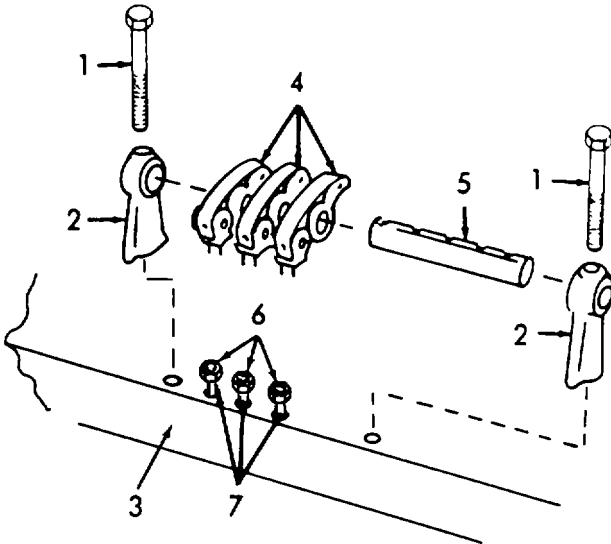

Figure 3-75. Rocker Arms, Removal/Installation.
a. Removal. (Refer to figure 3-75).
- (1) Crank engine or turn crankshaft to bring injector and valve rocker arms in line horizontally on the cylinder being worked on.
- (1) Refer to figure 3-75 and thread the rocker arms (4) onto push rods (7) and tighten locknuts (6).
- (2) Apply clean lubricating oil (item 12, Appendix C) to the shaft (5) and install shaft (5) through rocker arms (1).
- (3) Install brackets (2) and two bolts (1) to cylinder head (3). Torque bolts (1) to 90-100 lb-ft (122-136 Nm).
- (4) Install the fuel pipes to the injector per paragraph 3-22.
- (5) Start engine and adjust valves per paragraph 3-39.
- (6) Install rocker arm cover per paragraph 3-33.